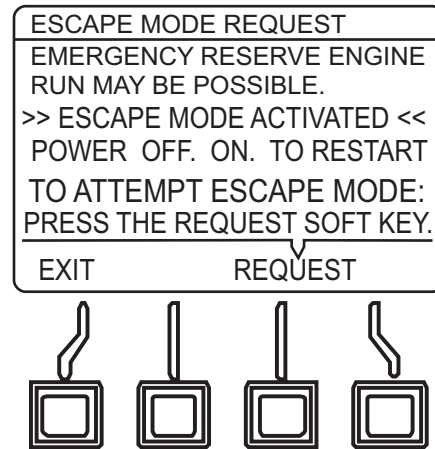

Figure 98. Escape Mode Activated Screen
- Once the **[REQUEST]** button has been pressed, the display will indicate that escape mode has been activated (Figure 98).